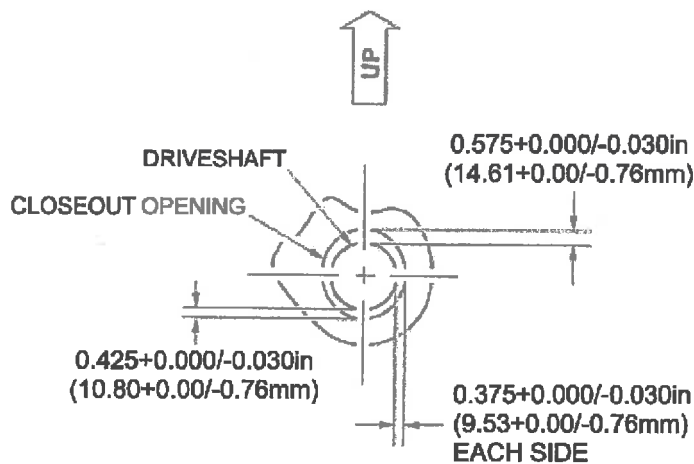

Figure 2: Engine to Transmission Driveshaft Firewall Closeout Clearances
2. Measure the clearance between the engine to transmission driveshaft and the Upper (P/N 0789-03-133-1) and Lower (0789-03-132-1) closeout panels, as shown in Figure 2. Confirm spacing is within the tolerances shown in Figure 2. If the closeout opening is not within the tolerances, adjust the hole size per **PART II** of this TB.
Note: It is recommended that the closeout opening hole size be made as large as possible, given the allowable tolerances, shown in Figure 2.
1. Mark the Upper (P/N 0789-03-133-1) and Lower (0789-03-132-1) closeout panels to the largest allowable hole size, given the allowable tolerances, shown in Figure 2.